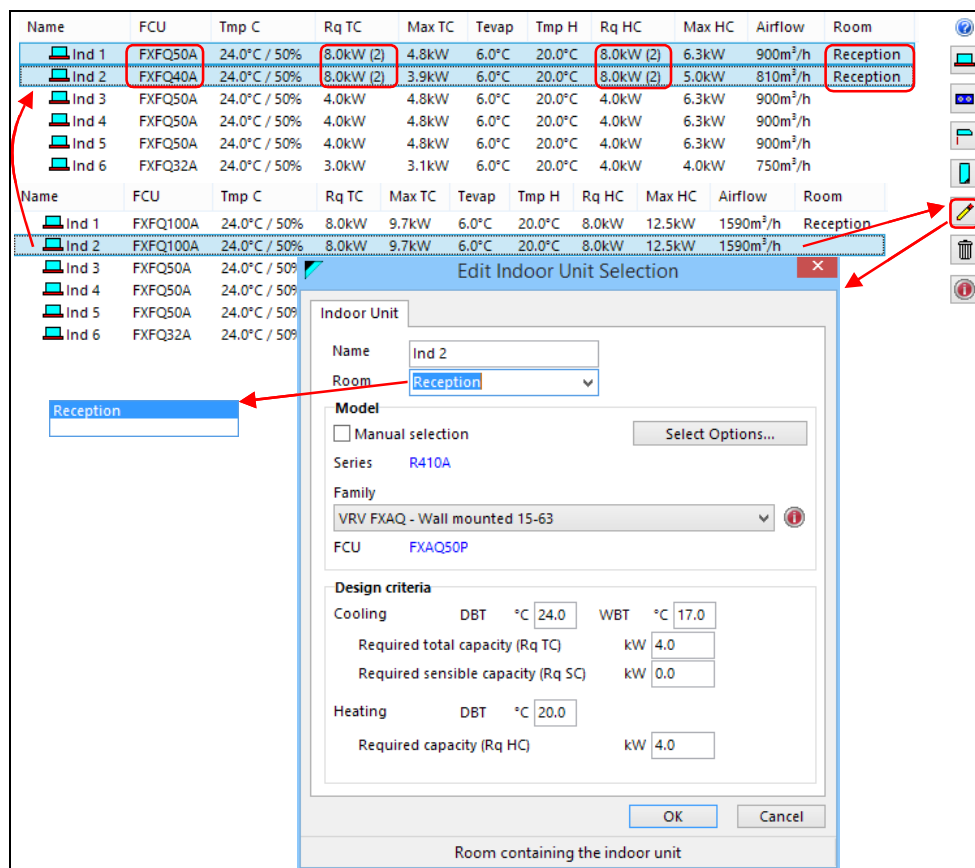

Figure 49: Placing two indoor units in a single room
Suppose the indoor units Ind1 and Ind2 belong to a room Reception. Edit the first indoor unit Ind1 and type the name Reception in the corresponding room field. Closing the edit window, you see the name appearing at the right in the overview, as shown in Figure 49, in the middle:
- As the individual indoor unit both required 4.0kW in cooling and 4.0kW in heating, VRV\_Xpress assumes that the room requires the sum of these capacities. In the overview (see Figure 49, at the top), it displays 8.0kW and also adds the number of indoor units to cover these capacities.